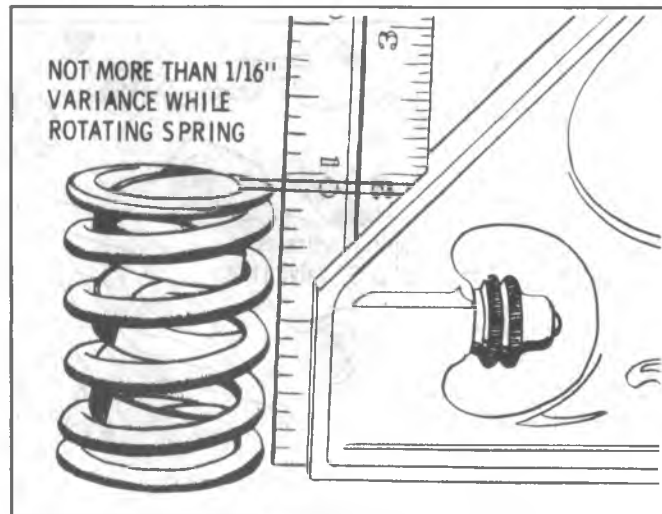

Fig. 6A6-46--Checking Valve Spring
- Occasionally this noise can be eliminated by rotating the valve spring and valve. Crank engine until noisy valve is off its seat. Rotate spring. This will also rotate valve. Repeat until valve becomes quiet. If correction is obtained, check for an off square valve spring. If spring is off square more than  $1/16$ " (1.6mm) in free position, replace spring. (Fig. 6A6-46).